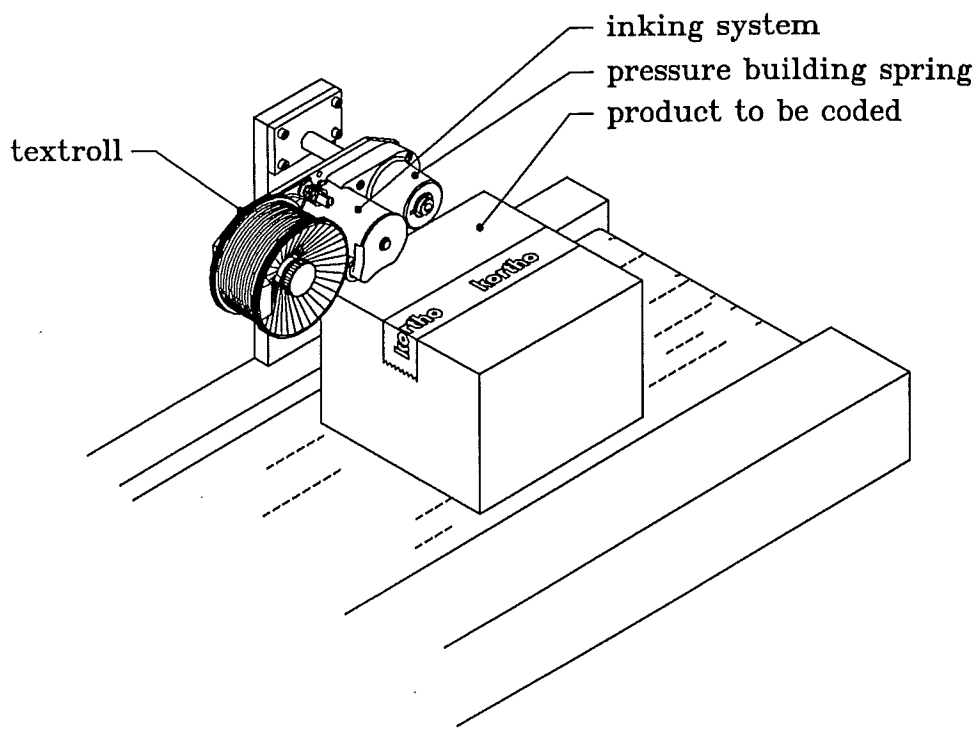

Figure 1 : A Kortho-coder
2.1 General precautions (see figure 1)